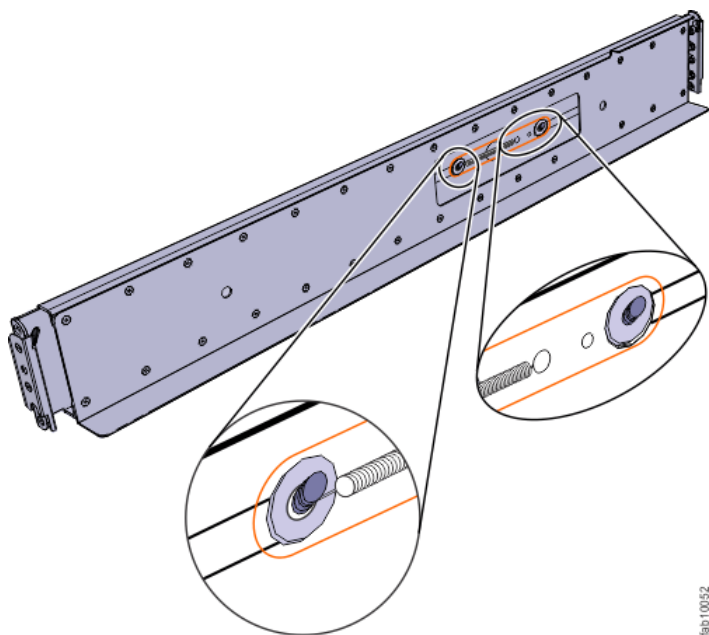

Figure 30. Installing the rail spring
- b) Push one looped end of a spring over one stud on the inside of the rail. (See Figure 30 on page 66.)